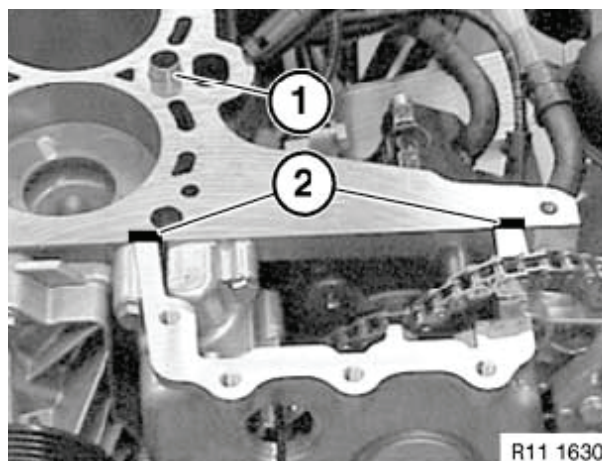

Figure 5-35
2. Check condition and placement of alignment dowel sleeves (**Figure 5-35, (1)**).
3. Ensure the gasket surfaces of the cylinder head and cylinder block are clean and dry. Transition areas (**Figure 5-35, (2)**) must be absolutely clean of grease and oil. **NOTICE:** *Ensure the threaded bolt holes are clean and dry. If coolant or oil remains in the holes, there is a risk of cracking the cylinder block when the bolts are installed.*